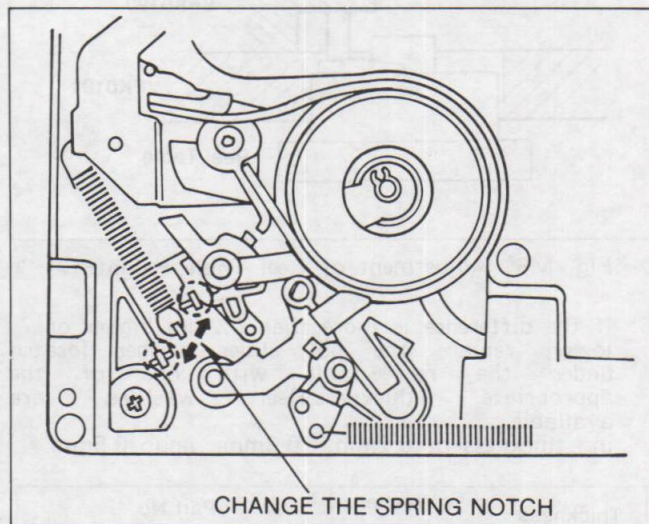

Fig. M6
3. If it is out of specification, change the spring notch as shown in Fig. M6.